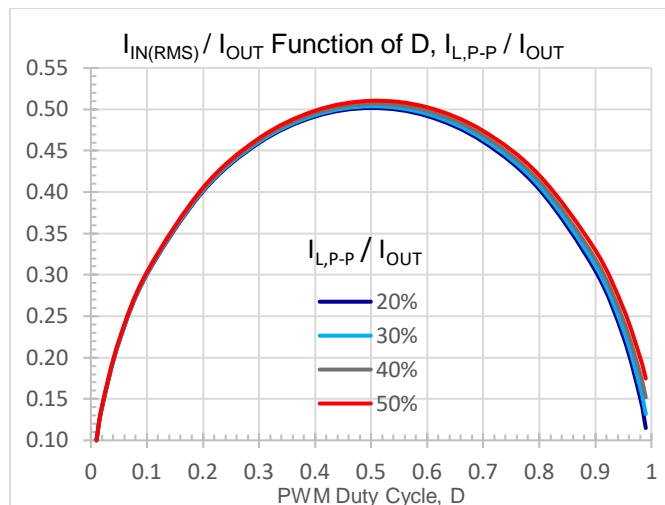

Figure 7: Input RMS Current
The output voltage is set via a resistor divider, part of the feedback compensation network connected to the feedback (FB) pin - refer to Figure 7. Choose R4 in a range of 5 k Ω to 50 k Ω , then use Equation (6) to calculate the value of R1 that yields the desired output voltage.
The typical SZDL3105 application is likely to employ a relatively small output filter, comprised mostly of ceramic capacitors. Given the ceramics' low equivalent series resistance, the filter requires more frequency compensation network design flexibility, prompting the need for user-adjustable external components. Figure 7 exemplifies a typical type-3 network used for this purpose.
The circuit's closed loop operation can be represented by a couple of functional blocks: the modulator and the feedback network. The modulator is comprised by the PWM signal generation circuitry, power stage, and output filter. The feedback network is made up of the components shown in Figure 7. These blocks regulate the output voltage and provide stable operation in response to input, output, and load changes while working in tandem. Equations (7) through (10) describe the frequency response of the system while operating in CCM.
- $R1$, $R2$, $R3$, $R4$, $C1$, $C2$, $C3$ are the feedback network components, as shown in Figure 7